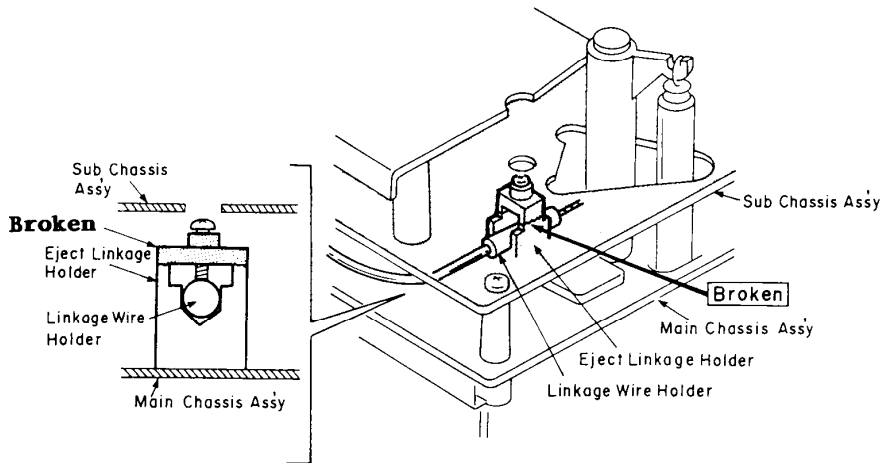

Fig. 1
This Service Information is prepared to give information how to repair when molded upper part of the Eject Linkage Holder is broken as shown in Fig. 1. As the Eject Linkage Holder fixes the Linkage Wire Holder, breakage of that part causes eject operation of the cassette compartment to be inoperative.
- (1) Remove the Mechanism Ass'y.
- (2) Remove the broken part of the Eject Linkage Holder (shaded part on the left side of Fig. 1).